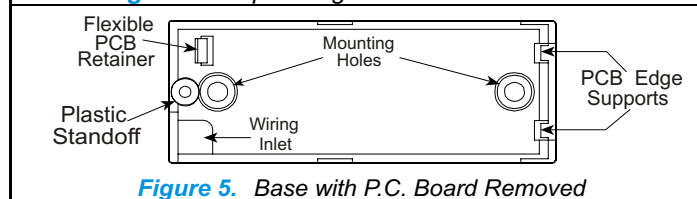

Figure 5. Base with P.C. Board Removed
- D. Hold the base against the mounting surface and mark the drilling points through the mounting holes (Figure 5).